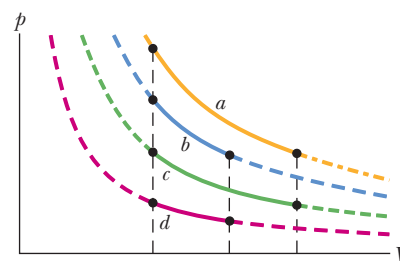

Fig. 20-21 Question 5.
**5** In four experiments, 2.5 mol of hydrogen gas undergoes reversible isothermal expansions, starting from the same volume but at different temperatures. The corresponding  $p$ - $V$  plots are shown in Fig. 20-21. Rank the situations according to the change in the entropy of the gas, greatest first.